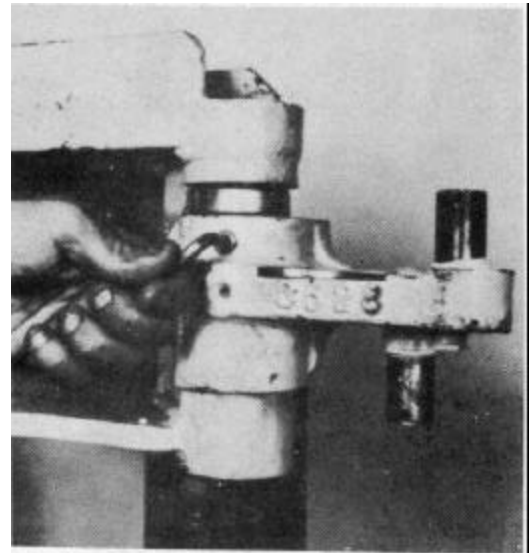

Figure 5-83
3. Loosen the king pin retaining set screw located at the side of the spindle (Fig. 5-83).